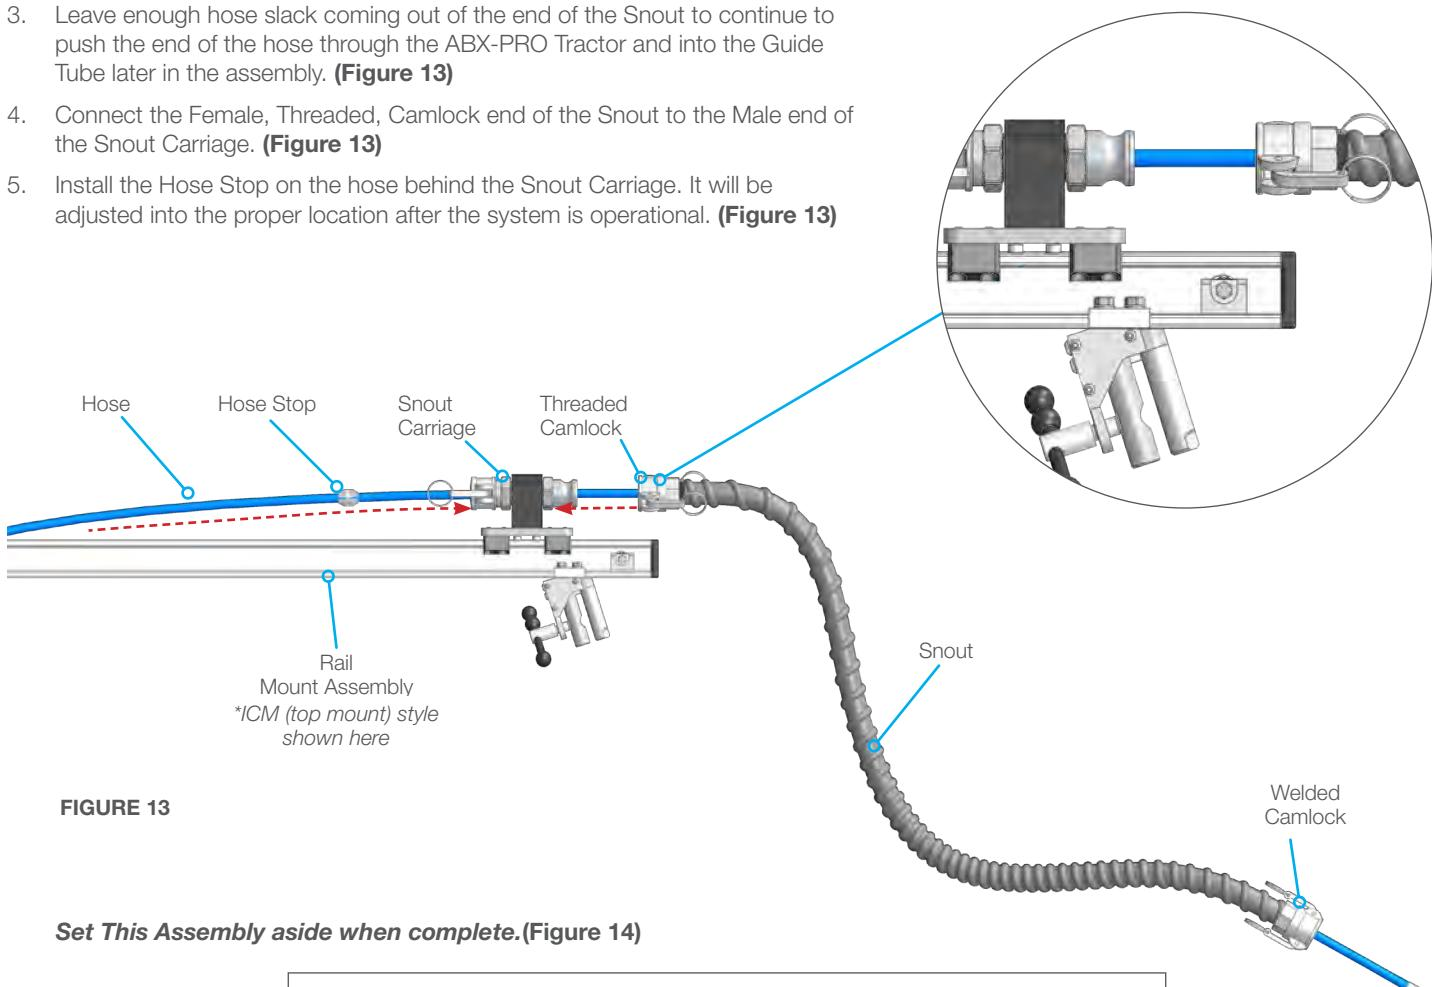

FIGURE 13
2. Insert the High Pressure Hose into the Camlock on the Snout Carriage and through the entire Snout. **(Figure 13)**
3. Leave enough hose slack coming out of the end of the Snout to continue to push the end of the hose through the ABX-PRO Tractor and into the Guide Tube later in the assembly. **(Figure 13)**
4. Connect the Female, Threaded, Camlock end of the Snout to the Male end of the Snout Carriage. **(Figure 13)**
5. Install the Hose Stop on the hose behind the Snout Carriage. It will be adjusted into the proper location after the system is operational. **(Figure 13)**